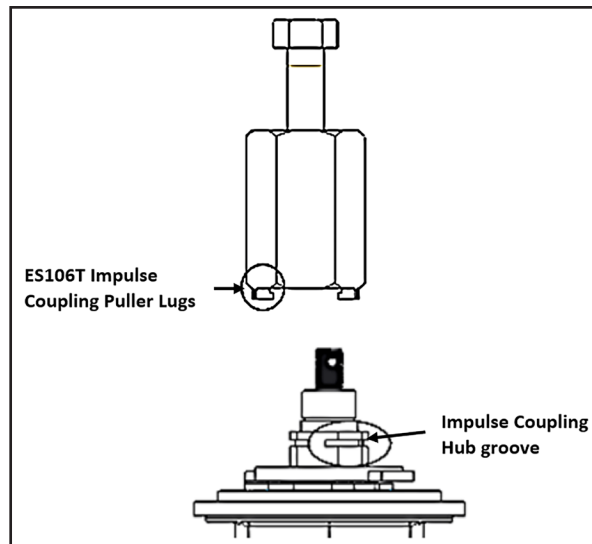

Figure 6.1 – Engaging Lugs
- (1) Grasp the impulse body (4c) of the impulse coupling assembly (4) to pull the impulse body (4c) and impulse spring (4a) away from the impulse cam assembly (4b).
- (2) Turn the impulse body (4c) to relieve spring (4a) tension.
- (3) Remove the impulse body (4c) and impulse spring (4a) from the impulse cam assembly (4b). Discard the impulse spring (4a).
- (4) Thread nut (2) onto the rotor shaft to cover and support the cotter pin hole. Install the HET ES106T Impulse Coupling Puller lugs into the groove of the impulse cam assembly (4b). Carefully increase tension of the ES106T Impulse Coupling Puller by turning the center bolt while holding the puller body and remove the impulse cam assembly (4b). Refer to Figure 6.1.